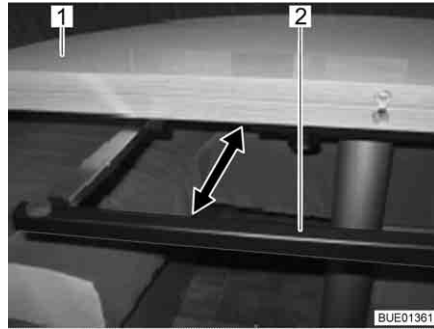

Fig. 97 Support frame
- Pull out the support frame (Fig. 97,2) below the table-top (Fig. 97,1) to the end position.